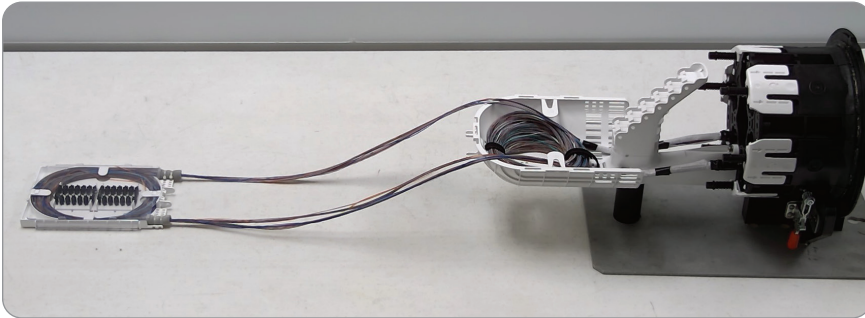

Figure 42
3. Secure fibers or tubes to tray at mark. **(Figure 42)**